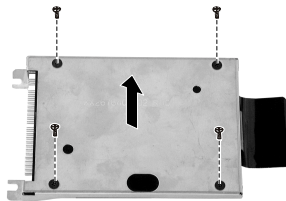

Figure 2-12 Remove hard disk drive
4. Remove four screws to To separate the hard disk drive from the bracket, remove four screws. (Figure 2-12)